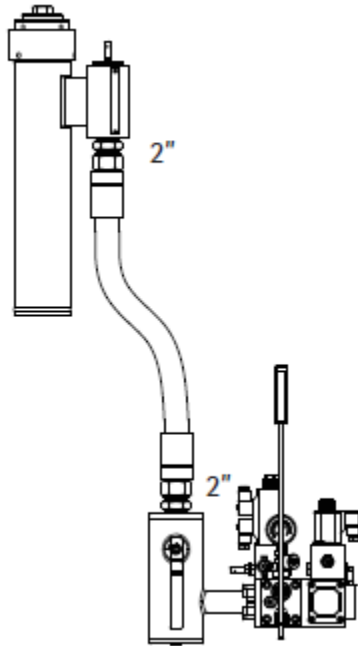

Figure 3 - Connection with flex hose 2"
- With a single flexible hose 2" and nipples 2", 60° angle (see Figure 3);